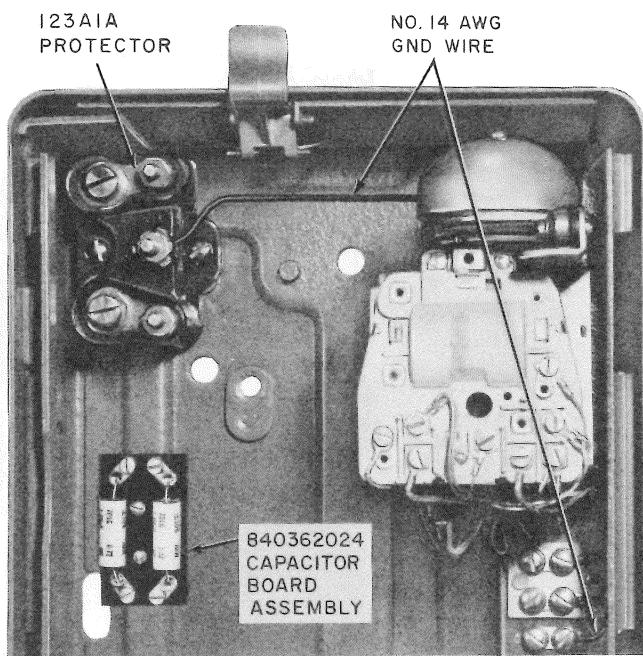

Fig. 52—Housing and Mounting Plate Assembly
- (a) Install capacitor board assembly on backplate in 1-type sets (Fig. 52).